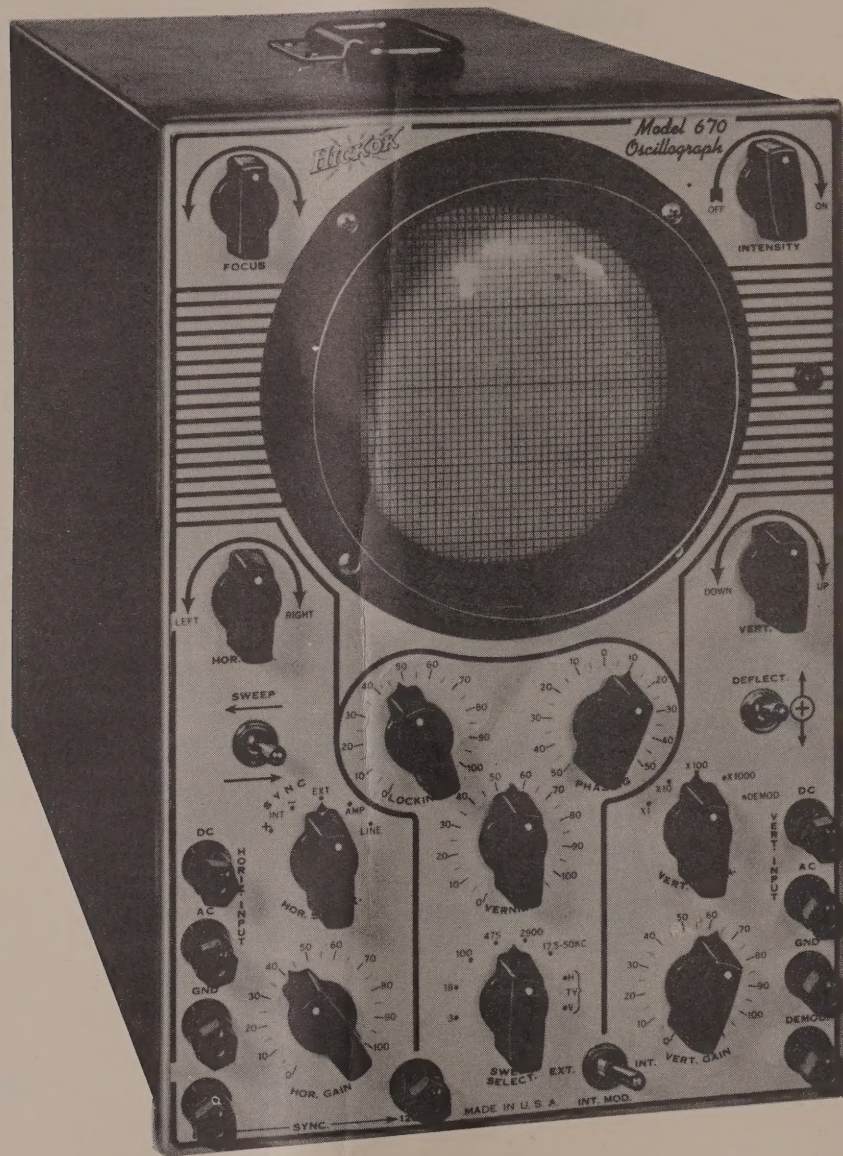

FIGURE 1.1 - CATHODE RAY OSCILLOSCOPE MODEL 670
a. Physical--The Model 670, shown in Figure 1.1, is a portable oscilloscope. The front panel is of satin chrome finish with all switches, controls and connectors clearly marked. This panel is divided functionally into five main controls: focus and intensity, horizontal deflection, vertical deflection,